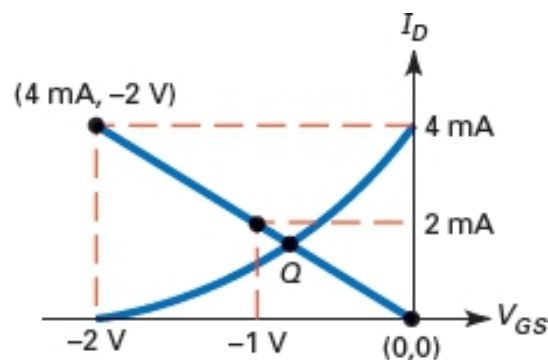

Figure-9 Self bias Q point
- When a JFET's transconductance curves are known, we can analyze a self-bias circuit using graphical methods. Suppose a self-bias JFET has the transconductance curve shown in Figure-9.
- We now have two points on the graph of Eq. (7). The two points are (0, 0) and (4 mA, -2 V). By plotting these two points as shown in Figure-9, we can draw a straight line through the two points as shown.
- In summary, here is a process for finding the Q point of any self-biased JFET, provided you have the transconductance curve. If the curve is not available, you can use the I_{DSS} and V_{GS} rated values, along with the square law equation (3), to develop one: